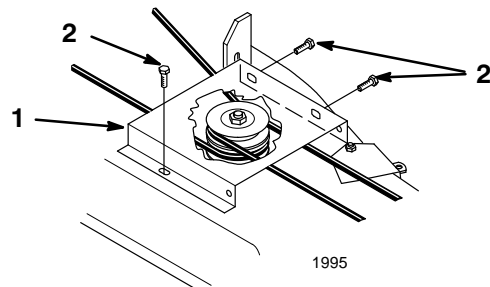

Figure 19
- On 42" mowers, mount the belt cover loosely to the outside of the belt cover bracket using (3) 1/4 x 1/2" (13 mm) flange screws (Fig. 19).